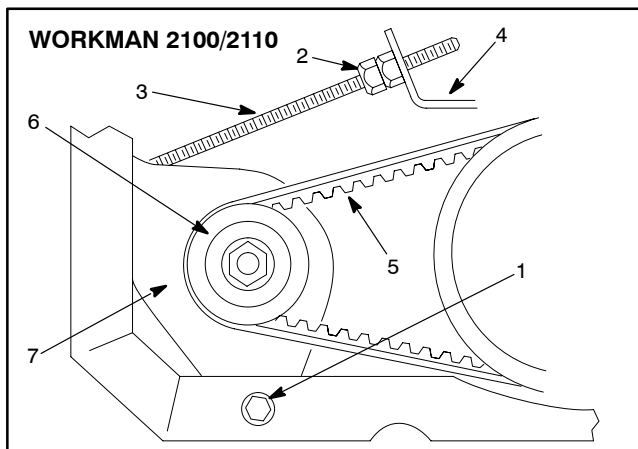

Figure 19
5. On the Workman 2100 and 2110 (Fig. 19):
3. On the Workman 2100 and 2110 (Fig. 19):